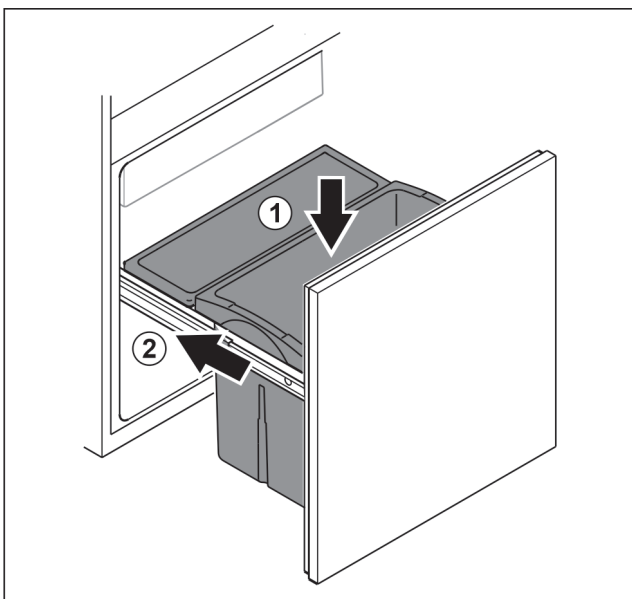

Fig. 101
- ▶ Insert drawer from above. Fig. 101 (1)
- ▶ Slide in pull-out unit. Fig. 101 (2)